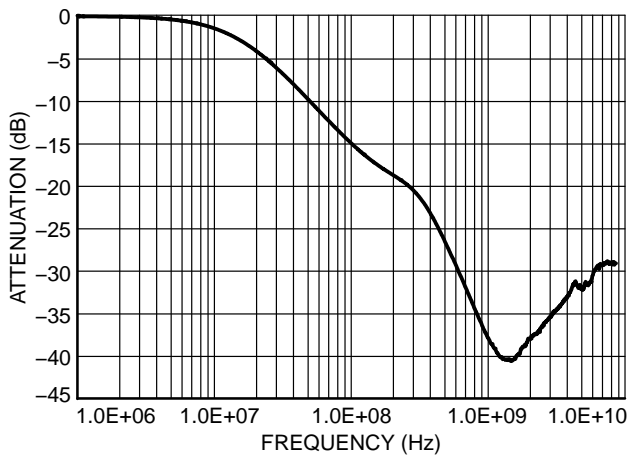

Figure 5. Insertion Loss of the NUF4220MN with a Network Impedance of 50 Ω with the Back Side GND Connected to Board Ground.
1) Having the shortest path to analog ground ensures the best EMI Filtering. When in this configuration the NUF4220MN provide over 30 dB of attenuation between 800 MHz and 5.0 GHz in a 50 Ω network as shown in Figure 5.